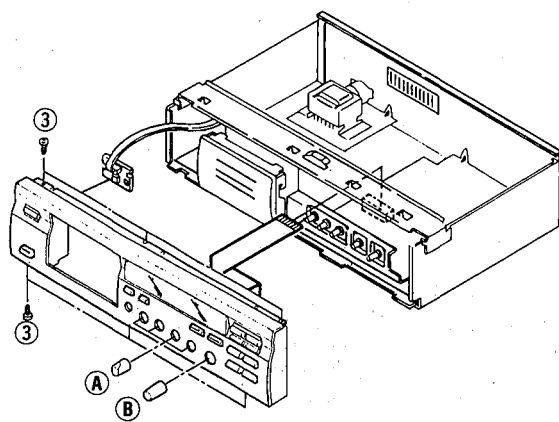

Fig. 2
- a. Remove 6 screws (③) in Fig. 2.
- b. Remove 5 knobs (A, B) in Fig. 2.
- c. Detach the hook and remove the P.C.B. Main (4).